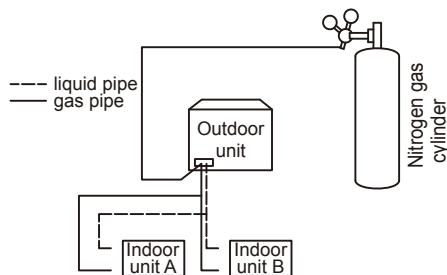

Figure 5.14
- Use blind plugs to block all liquid (gas) side openings, except for the opening at the indoor unit which is furthest from the outdoor units ("Indoor unit A" in Figure 5.14).